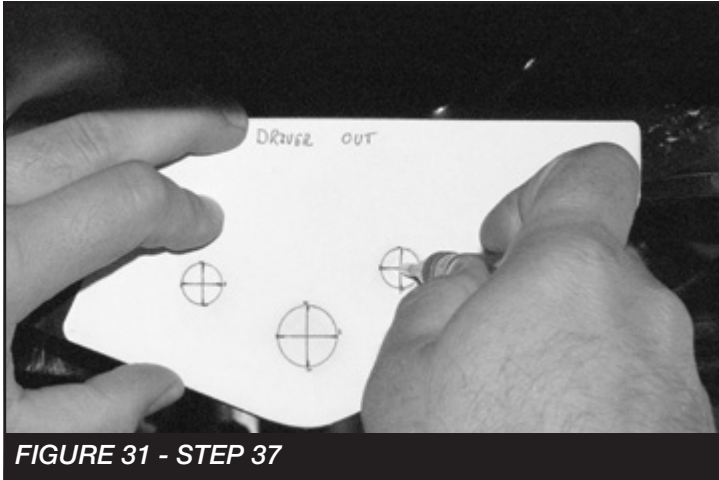

FIGURE 31 - STEP 37
37. Line up the drill template with the factory Radius arm bracket and mark the two holes around the radius arm pivot bolt. **SEE FIGURE 31**